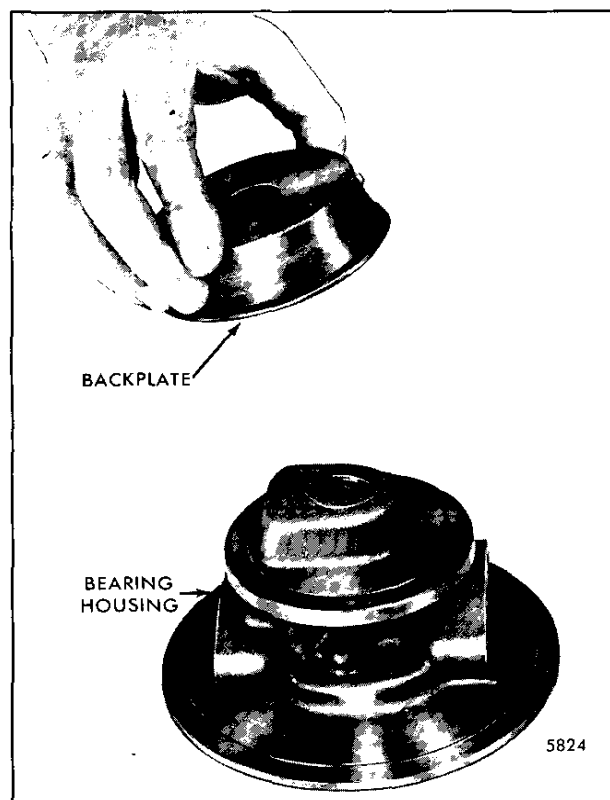

Fig. 13 - Assembling Bearing Housing and Backplate
3. Position the bearing housing, turbine end up (Fig. 13). Then install the turbine backplate.